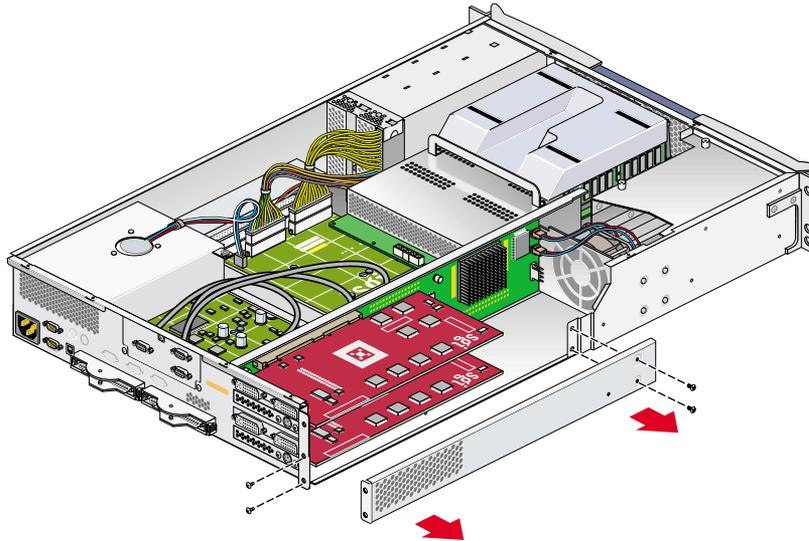

Figure A-15 Removing the PCI/PCI-X Support Bracket
9. Remove the lower PCI/PCI-X support bracket by unscrewing the four Phillips screws, as shown in Figure A-15.